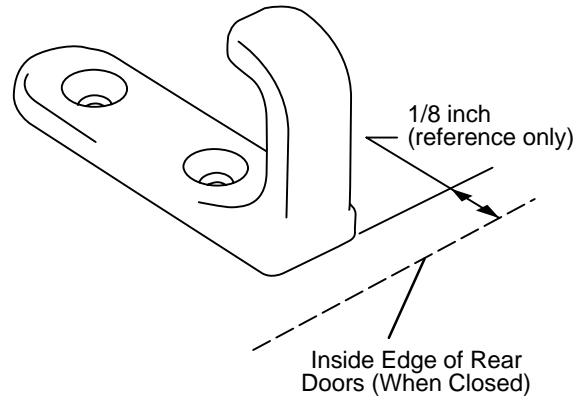

Figure 5 – Illustration of J Safety Hook
5. Center the safety hook (Figure 5) on the cot safety bar. Be sure the hook is facing the front of the vehicle.